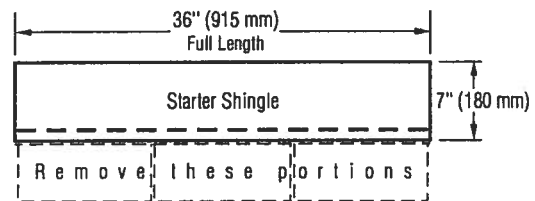

Figure 12-6: Make starter shingles by removing the lower 5" tabs.
1. Use CertainTeed Starter™ (10" x 36") or a starter course consisting of the shingles from which the lower 5" tabs have been removed (Figure 12-6). Remember, the sealant on starter courses should lie as close as possible to the eaves edge of the roof.
1. Use CertainTeed Starter™ (10" x 36") or a starter course consisting of the shingles from which the lower 5" tabs have been removed (Figure 12-6). Remember, the sealant on starter courses should lay as close as possible to the eaves edge of the roof.